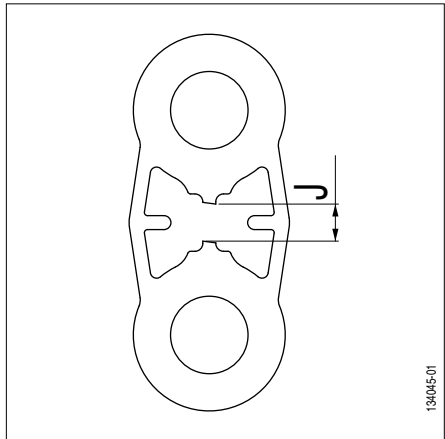
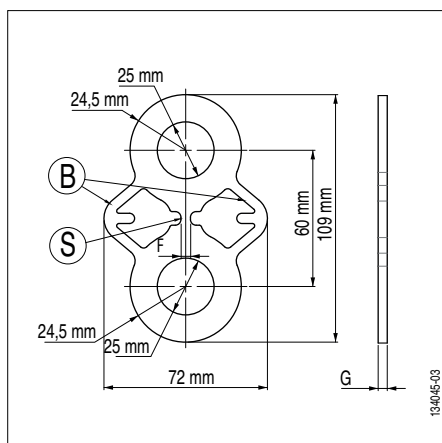

Fig. 1
Fig. 3
The test load is reached when the central section of the plate (fig. 3, page 10, item S) shears. A pair of brace arms (fig. 3, page 10, item B) secure the loading line after shearing of the ‘S’ section.
The different TA test plates are made of stainless steel of the same grade to ensure shearing of the section (fig. 3, page 10, item S) to a level of precision of $\pm 10\%$ of the CR shear load indicated on the TA test plate (Chapter “11 Markings”). The brace arms (fig. 3, page 10, item B) are designed to ensure a mechanical strength of at least the CR shear load indicated on the test plate.
- At the shear load CR indicated on the TA test plate (Chapter “11 Markings”) shear of S section (fig. 3, page 10, item S).
- Elongation of plate and appearance of clearance ‘J’ between upper and lower half-parts of TA test plate (fig. 1, clearance J).
DANGER : If the operator applies a new load to the test plate after shearing of the ‘S’ section, the brace arm can break (fig. 3, page 10, item B) resulting in falling down of the load application device. The maximum clearance ‘J’ (fig. 1, clearance J) must not exceed 15 mm.